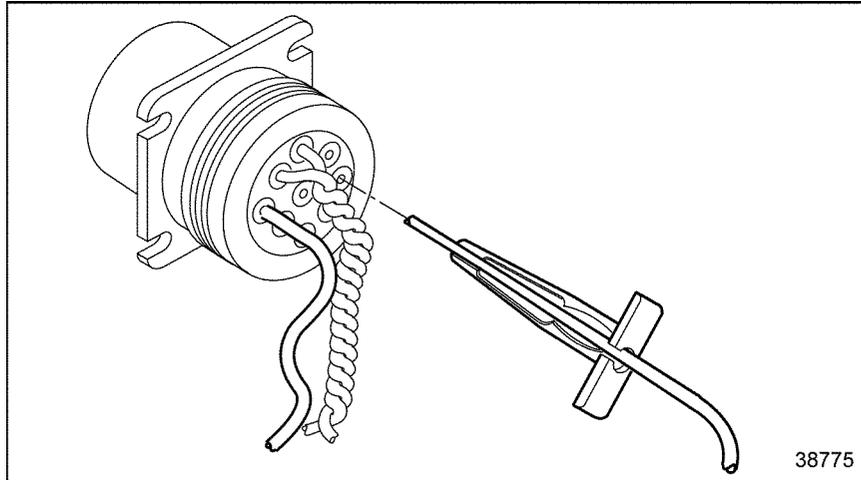

Figure 3-18 **Removal Tool Insertion**
2. Slide the tool along the cable into the insert cavity until it engages and resistance is felt. Do not twist or insert tool at an angle. See Figure 3-18.